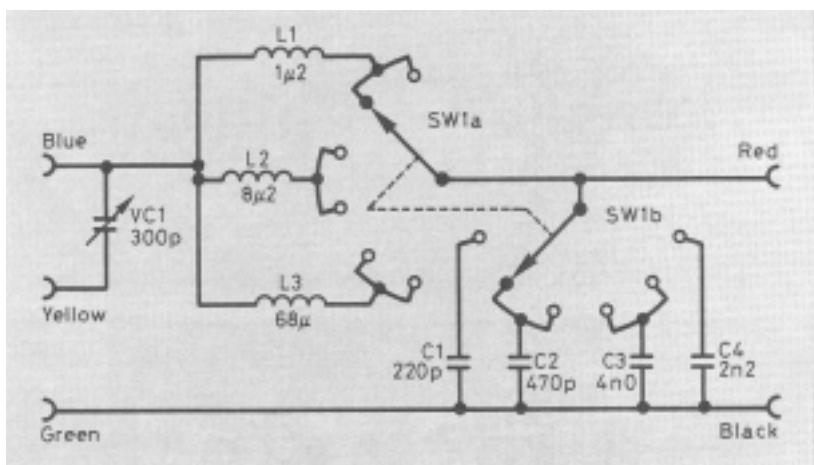
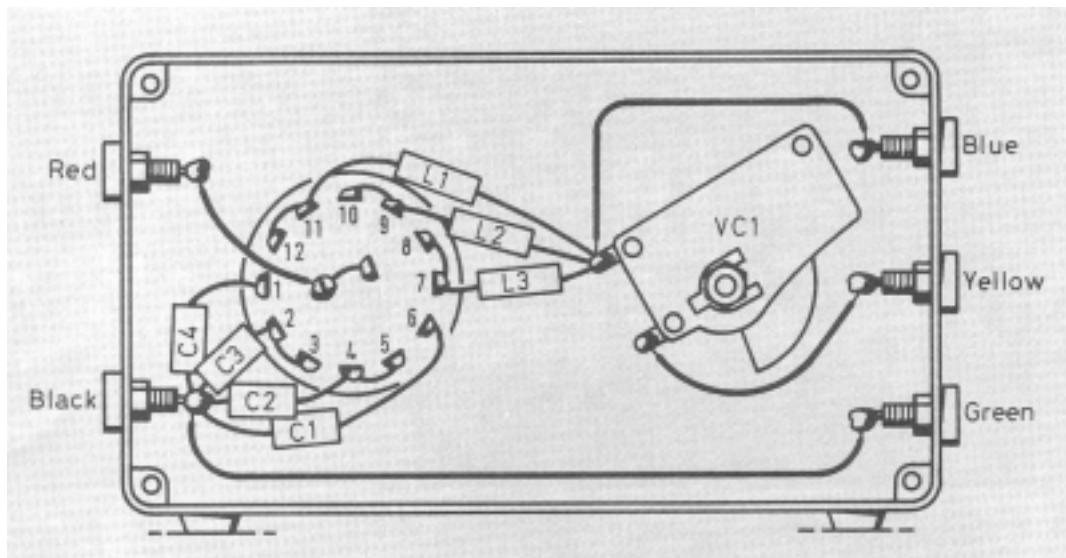

Figure 1 Circuit diagram of the Antenna Tuning Unit, showing the use of a 2-pole, 6-way rotary switch to select inductors (L) and capacitors (C)
Figure 2 The internal view of the case shows the main tuning capacitor, VC1. This is a solid dielectric type, which has adjustable brass plates
This design of ATU covers all amateur and broadcast bands from 10 m (28 MHz) to 80 m (3.5 MHz), and is very easy to build. The circuit is shown in **Figure 1**.
6. Wire up the inductors (coils). Figure 1 and the wiring diagram of **Figure 2**, will help with this. As you can see, each one side of each coil is connected to two switch connections, the other end going to VC1.
8. Solder a wire between the green and black sockets. The output from the ATU comes from the red socket, and this is connected to the two tags in the centre of the switch, as Figure. 2 shows clearly.